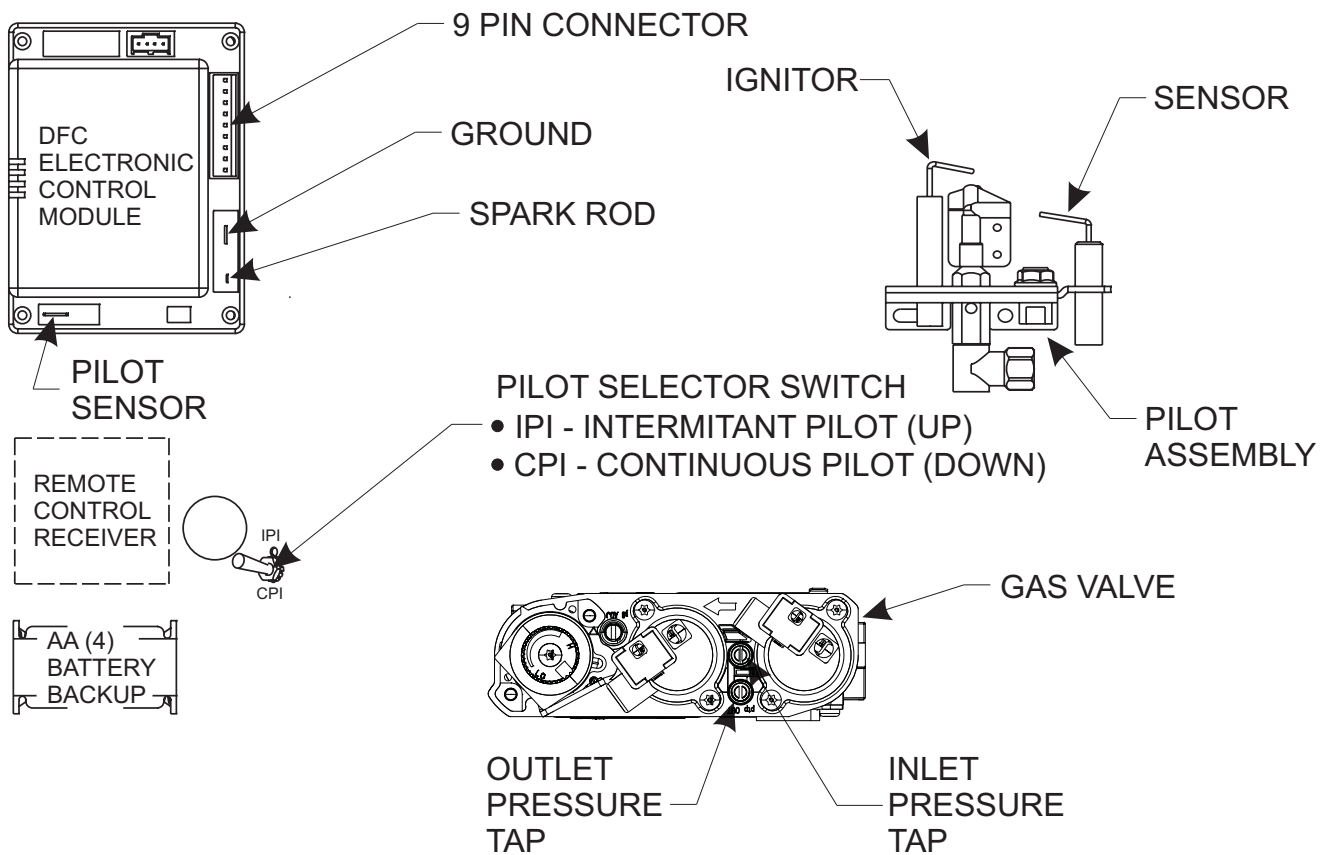

Figure 31
NOTE: A small toggle switch is located on a bracket that is used to switch from IPI (upward position) to the CPI (downward position). See Figure 31.
See Figure 31.
3. The gas valve has inlet and outlet pressure taps as shown in Figure 31. Refer to page 19 for gas pressure requirements.
NOTE: The gas control has a manual HI/LO flame adjustment knob (regulator) that allows you to increase or decrease the height of the burner flame. See Figure 31. Rotate the HI/LO knob counterclockwise to "HI" to increase the flame height, and clockwise to "LO" to decrease the flame height.